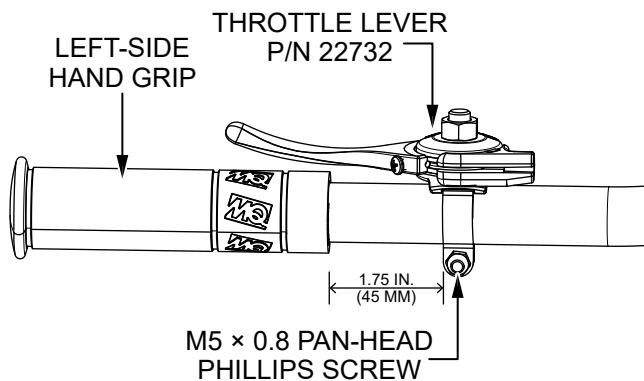

Figure 11. Install Throttle Lever
- Using the included **M5 × 0.8 pan-head Phillips screw**, install the **throttle lever assembly** (P/N 22732) onto the left-side handle bar, **1.75 inches (45 mm)** away from the **left-side hand grip**. Tighten the screw securely. See Figure 11.